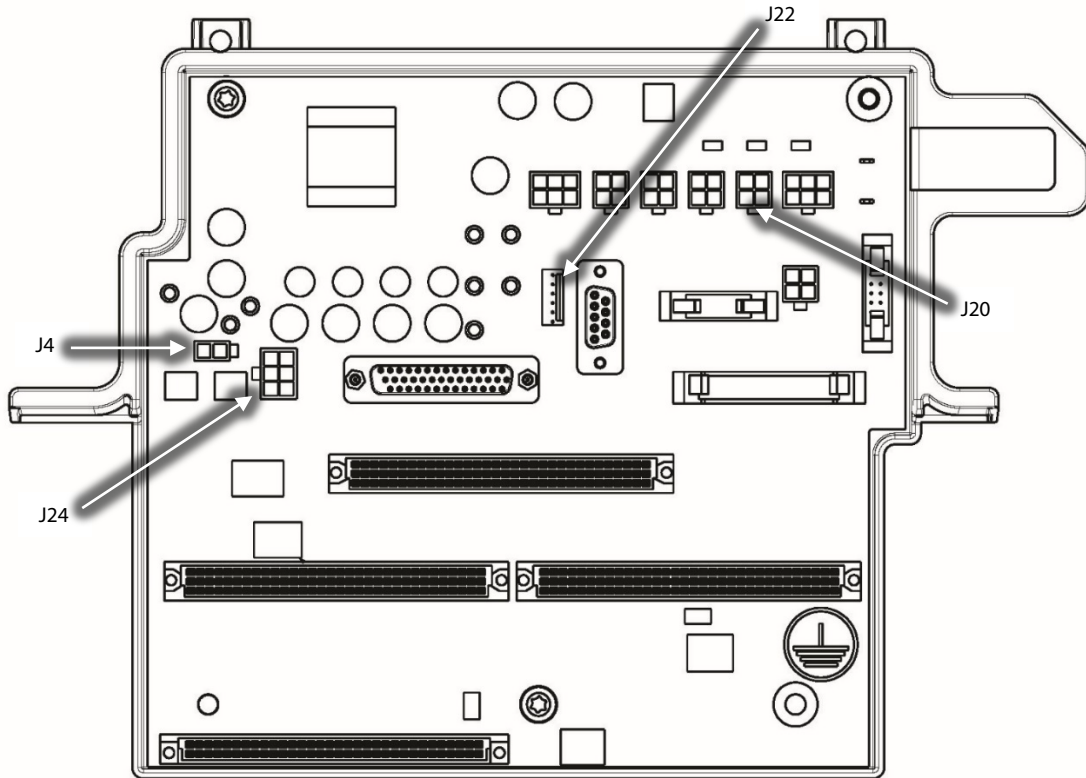

Figure 6 – Backplane Connector Locations
6. Disconnect the J4, J20, J24, and J22 (if present) from the Backplane. Refer to Figure 6 (Backplane Connector Locations).